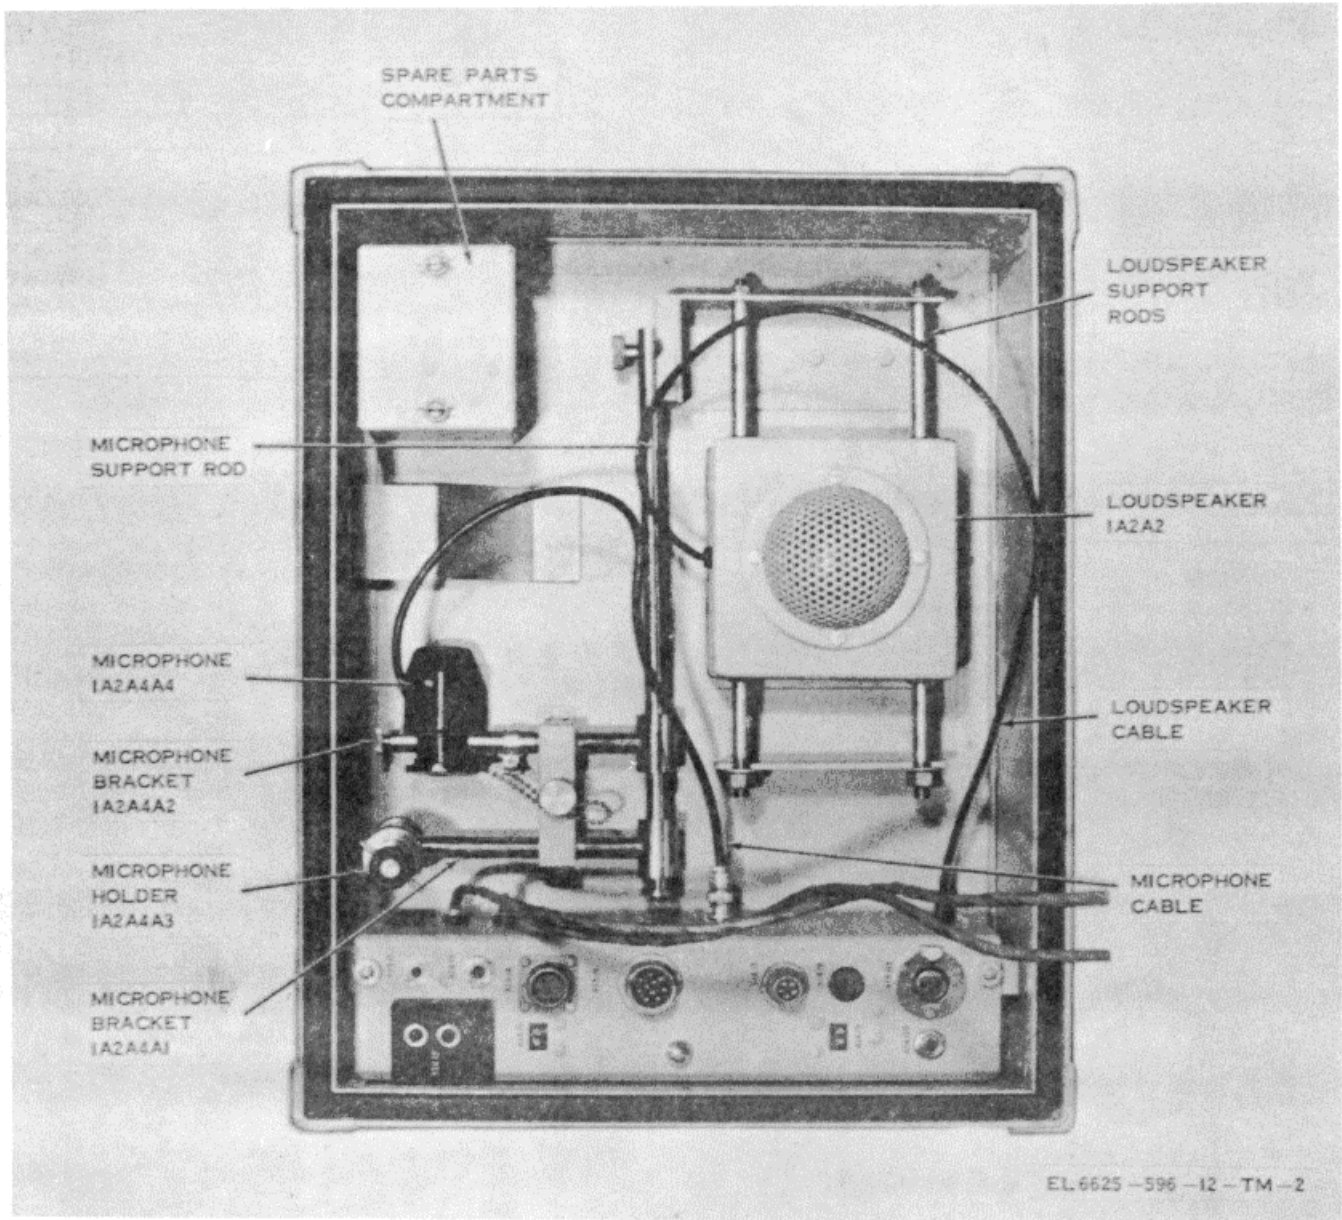
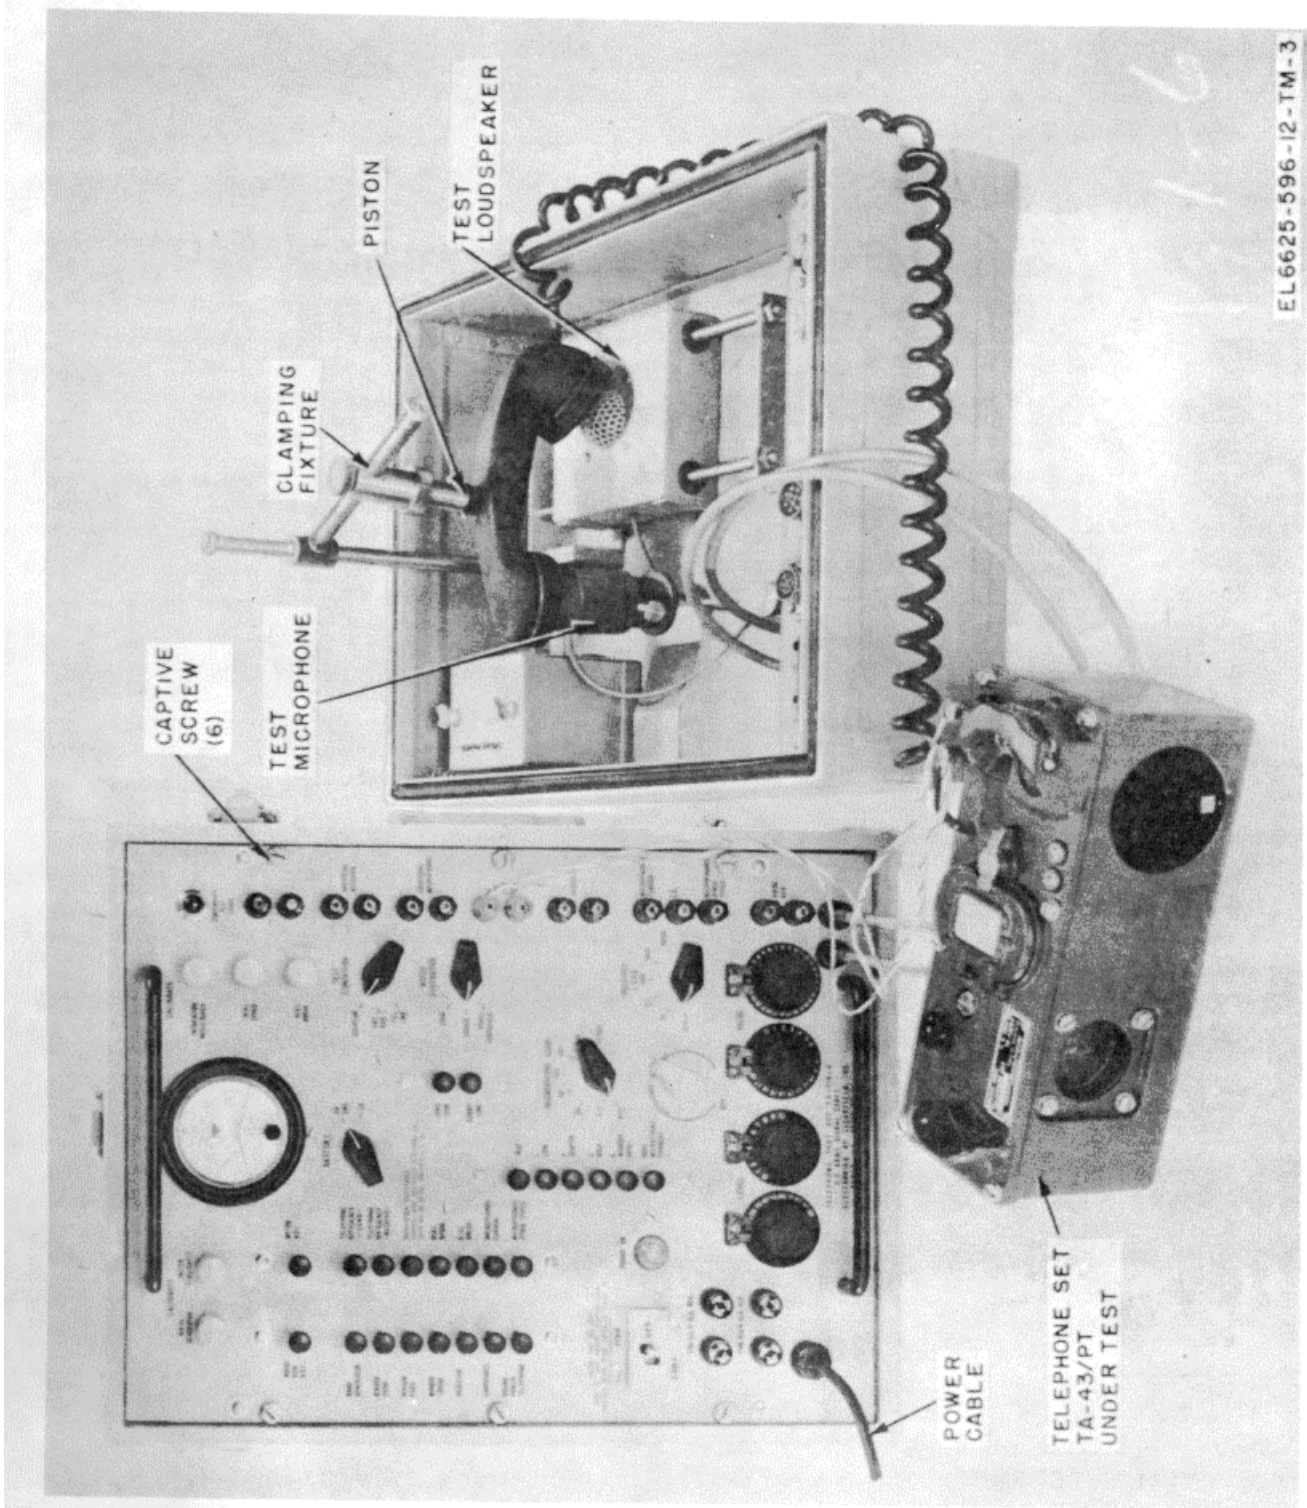
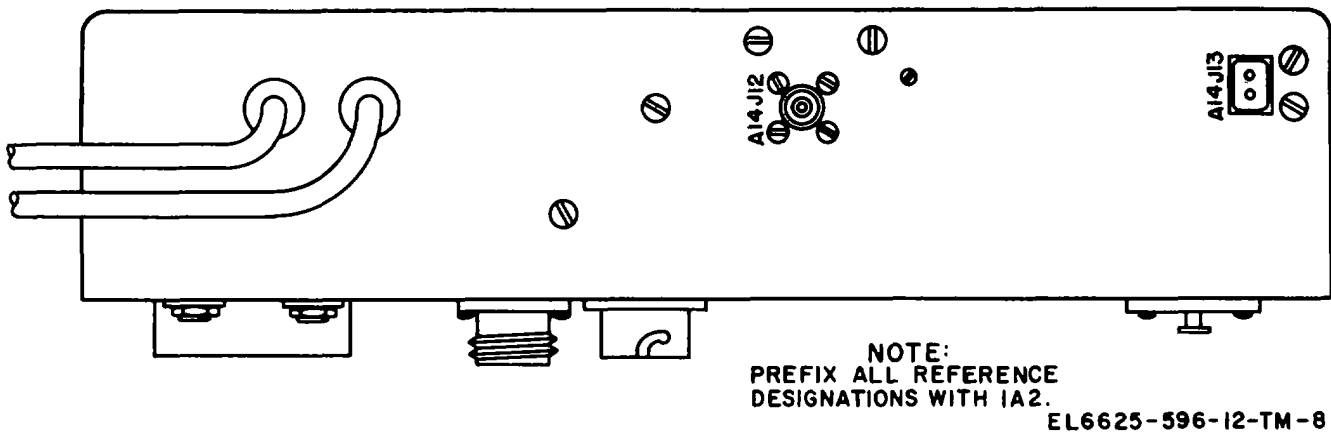

Figure 1-2. Top case assembly 1A2
Figure 1-3. Telephone test set TS-716/U, typical test setup.
Figure 2-2. Electrical test panel 1A2A14, top view.
b. Top Case Assembly 1A2. (fig 1-2) Assembly 1A2 (the top of the carrying case) contains the following items.
(1) Loudspeaker 1A2A2. Loudspeaker 1A2A2 is a permanent magnet test loudspeaker mounted in a metal case with a perforated metal
(2) Spare Parts Assembly 1A2A3. Assembly 1A2A3 provides storage space for the spare fuses and lamps listed in appendix B. A three-contact receptacle which mates with the TS-716/U power plug is mounted on the cover of 1A2A3. When the TS-716/U is prepared for storage or shipment, the power plug is inserted in the receptacle to prevent movement of the power plug.
(3) Microphone Stand Assembly 1A2A4. Assembly 1A2A4 includes a test microphone and an acoustical coupler which are shown in figure 1-2 clamped for shipment or storage and are shown in figure 1-3 in the operating position. The test microphone is mounted on a support arm such that the microphone can be rotated 360° on the support arm. The support arm may be raised, lowered, or rotated on the coupler support bar as required. The microphone holding fixture can be moved horizontally on its support arm and, by means of a spring-loaded cylinder, can be moved vertically to exert pressure on any item that is to be held over the loudspeaker, microphone, or both (fig. 1-3). The test microphone cable mates with connector 1A2A14J12 ((4), below).
(4) Electrical Test Panel 1A2A14. Panel 1A2A14 contains various types of receptacles for connecting transducers to be tested, one receptacle for connecting the test microphone, and one receptacle for connecting the test loudspeaker. The following chart lists the reference designations of the 1A2A14 receptacles and indicates what each mates with. The location of the 1A2A14 receptacles is illustrated on figures 1-2 and 2-2.
- (1) Remove the powerline plug from the clip on the side of the spare parts compartment (fig. 1-2).
- (2) If the loudspeaker and microphone cables (fig. 1-2) are connected, remove them from jacks 1A2A14J12 and J13 (fig. 2-2).
(3) Remove the three captive screws (fig. 1-2) that secure electrical test panel 1A2A14 to top case assemble 1A2 and lift out 1A2A14.
(4) Remote the six captive screws (fig. 1-3) that hold test rack assembly 1A3 and panel chassis assembly 1A4 in bottom case assembly 1A1. Lift the dual chassis by the two handles on panel chassis assembly 1A4 and remove the dual chassis from bottom case assembly 1A1.
c. Connect the test microphone cable to 1A2A14J12 and the test loudspeaker cable to 1A2414J.13 (figs. 2-2).